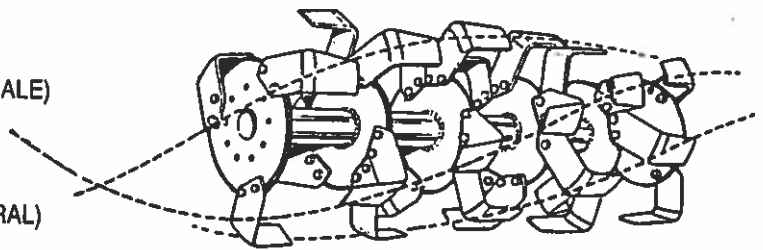

FIG. 12
I BULLONI CHE FISSANO LE ZAPPE, DEVONO AVERE LA TESTA DALLA PARTE DELLE ZAPPE E IL DADO CON LA GROWER DALLA PARTE DELLA FLANGIA PORTA ZAPPE (FIG.12).
STANDARD FLANGE FITS 6 TINES. UNDER REQUEST THE MACHINE CAN BE SUPPLIED WITH 4 TINES EACH FLANGE. CHECK TIGHTNESS OF BOLTS ALWAYS BEFORE USE. THE BOLTS SHOULD BE MOUNTED WITH HEADS CLOSE TO THE TINE; AND WASHERS TOWARDS THE FLANGE (FIG.12).
LA FRAISE EST NORMALEMENT EQUIPEE DE 6 LAMES PAR PORTE-LAMES. IL EST POSSIBLE AUSSI DE MONTER 4 LAMES PAR PORTE-LAMES. LES BOULONS DOIVENT ETRE FIXES AVEC LA TETE COTE LAME ET LES ECROUS ET LES RONDELLES COTE PORTE LAMES. LORS DU REMPLACEMENT DES LAMES, EFFECTUER L'OPERATION LAME PAR LAME (FIG.12). UTILISER SEULEMENT DES PIECES D'ORIGINE CELLI.
JEDER FLANSCH IST MIT 6 MESSER VERSEHEN. AUF ANFRAGE KANN MAN 4 MESSER PRO FLANSCH MONTIEREN. DIE BEFESTIGUNGSSCHRAUBEN MUESSEN MIT DEM KOPF AUF DER SEITE DER MESSER UND DIE MUTTER MIT UNTERLEGSSCHEIBE AUF DER FLANSCHSEITE ANGESCHRAUBT WERDEN (FIG.12). MONTAGE DER NEUEN MESSERSERIE
EL ROTOCULTOR NORMALMENTE SE ENTREGA CON 6 CUCHILLAS POR BRIDA PERO ES POSIBLE MONTAR 4 CUCHILLAS POR BRIDA. LOS PERNOS QUE FIJAN LAS CUCHILLAS TIENEN QUE TENER LA CABEZA POR LA PARTE DE LAS CUCHILLAS Y LA TUERCA CON LA GROWER POR LA PARTE DE LA BRIDA PORTA CUCHILLAS (FIG.12). CUANDO SE DEBAN MONTAR UNA SERIE DE CUCHILLAS NUEVAS, SE ACONSEJA EFECTUAR LA OPERACION SUSTITUYENDO UNA POR UNA. USAR EXCLUSIVAMENTE CUCHILLAS ORIGINALES CELLI.
- CONTROLLARE LE ZAPPE ED IL SERRAGGIO DEI RELATIVI BULLONI, SE NECESSARIO SOSTITUIRE SOLO CON RICAMBI ORIGINALI CELLI, MANTENENDO LE POSIZIONI DI MONTAGGIO INIZIALI (FIG.12).
- CHECK TINES AND TIGHTENING OF ALL THEIR BOLTS; WHENEVER REQUIRED REPLACE THEM ONLY WITH CELLI GENUINE PARTS, AND FIT THEM IN THE SAME POSITION (FIG. 12).